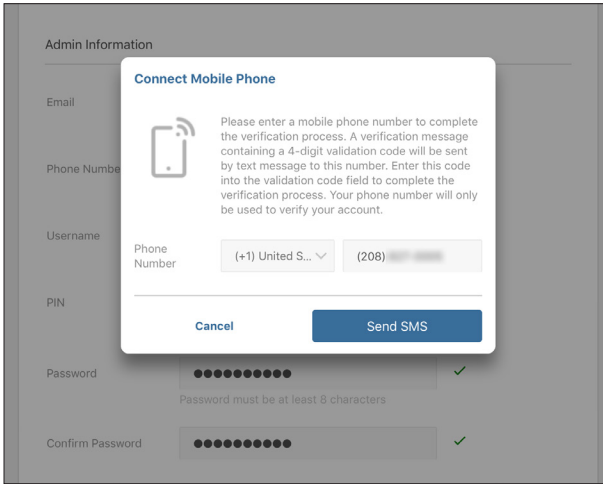

Figure 9 Connect Mobile Phone screen
6. Enter a mobile phone number in the Connect Mobile Phone dialog window (Figure 9).